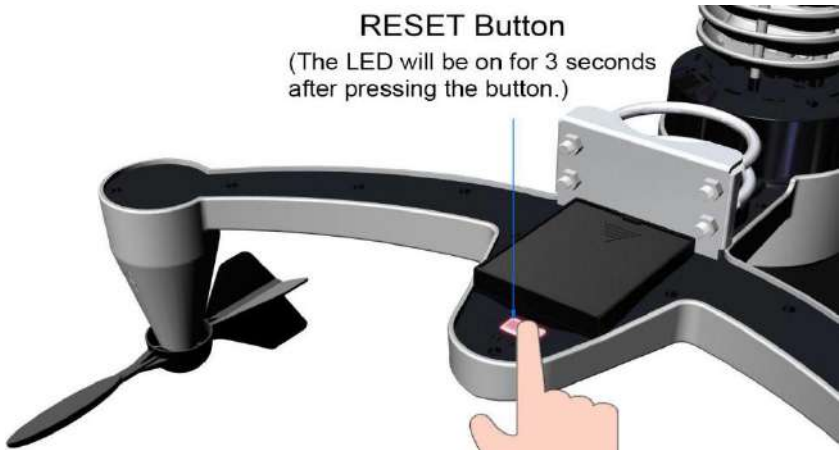

Figure 3
**Note:** If the sensor does not power up after inserting the batteries, press the reset button as shown in Figure 3.